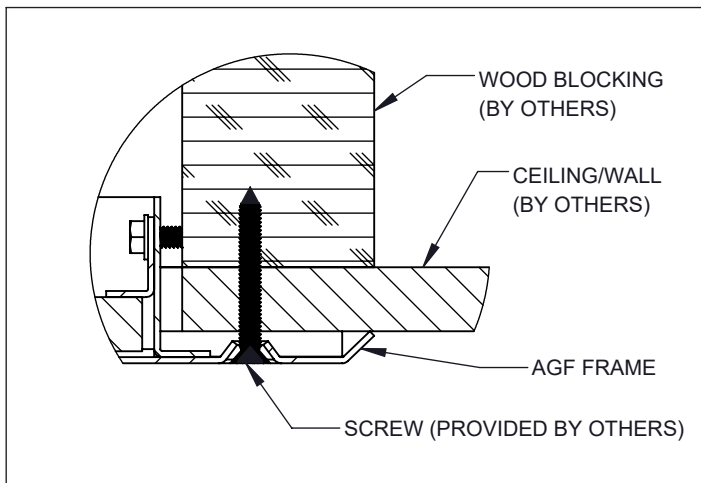

Figure 3
3. Screw AGF frame into wood blocking using holes provided. (Fig. 3)